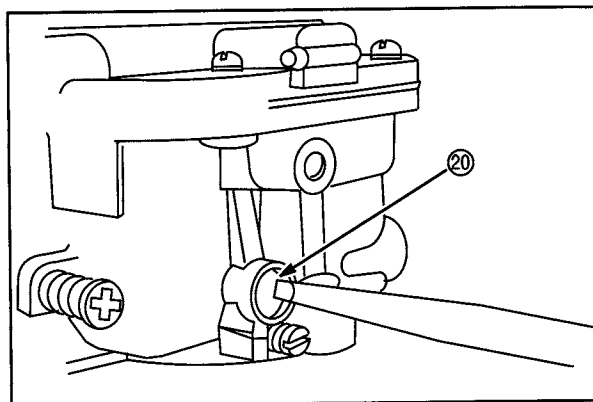

Fig. 84
14. Remove transitional hole welch plug (20) with a punch as shown, **Fig. 84**.